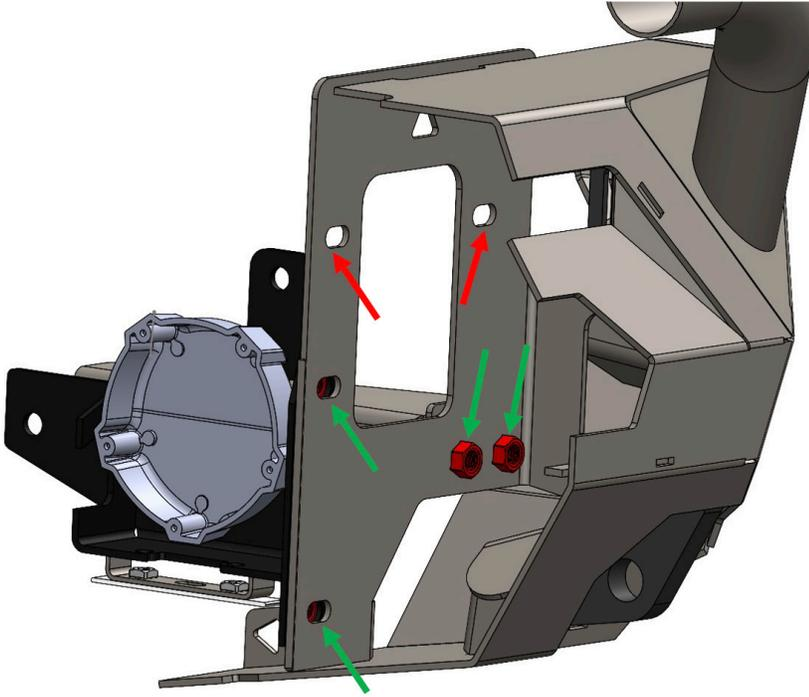

Figure 29
39. With assistance, install new bumper (Part#: 23027) to the vehicle by reinstalling four (4) of the previously removed OE bolts and eight (8) of the provided 1/2"-13 x 1.25" bolts, flat washers, and lock washers. Figure 29